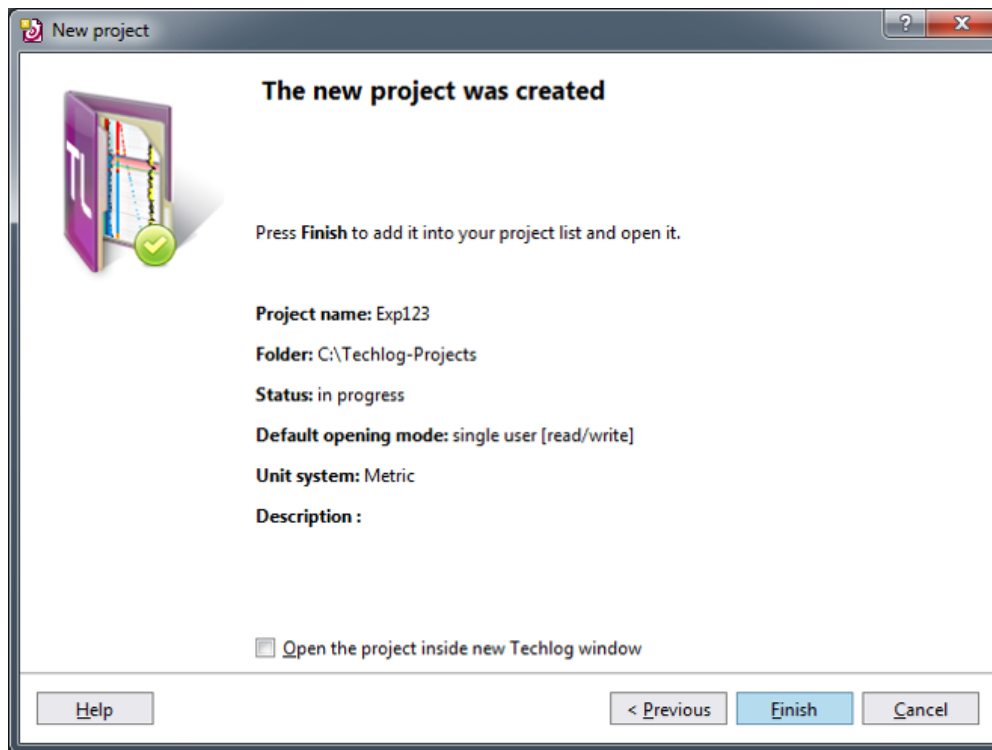

Figure 5. File browser showing the location and IODP-Techlog .
6. Skip the third window that appears. In the next (fourth window), click Finish (Fig. 5).